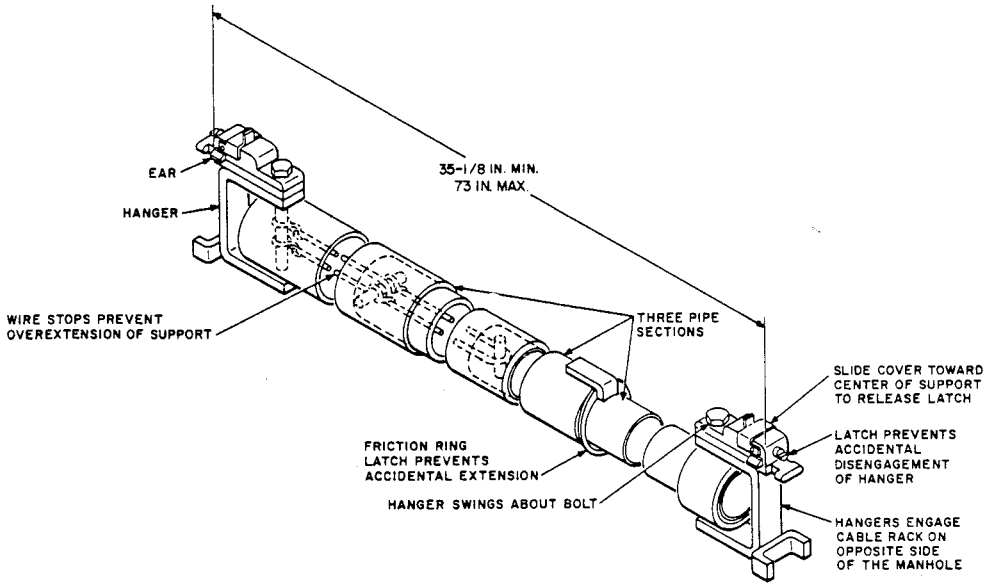

Fig. 1— ϕ D Manhole Platform Support ϕ
2.01 ♦The D Manhole Platform Support (Fig. 1) consists of three telescoping lengths of pipe connecting two hangers for engaging the cable racks on opposite sides of a manhole. The intermediate pipe section carries a friction ring latch which engages the surface of the inner pipe to prevent accidental extension of these pipes during handling. Two wire stops extending through the pipes prevent overextension of the telescoping sections. A spring safety latch is provided on each end for locking the support in place when in use.